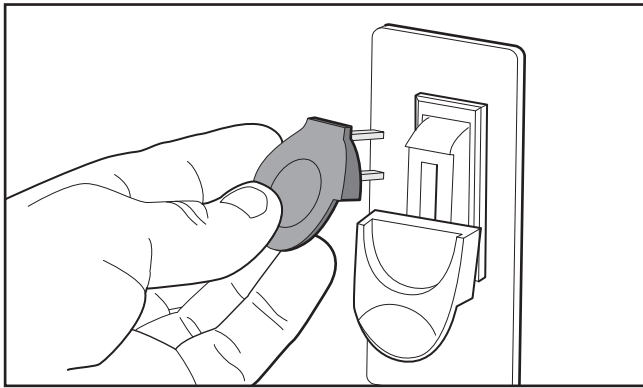

Figure 21. Removing switch key from paddle switch.
4. Remove switch disabling key, as shown in **Figure 21**.